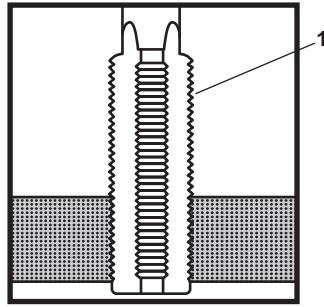

Figure 2. Tapping New Threads
5. Tap new threads in the hole using the tap (figure 2, item 1) selected in step 3 above.